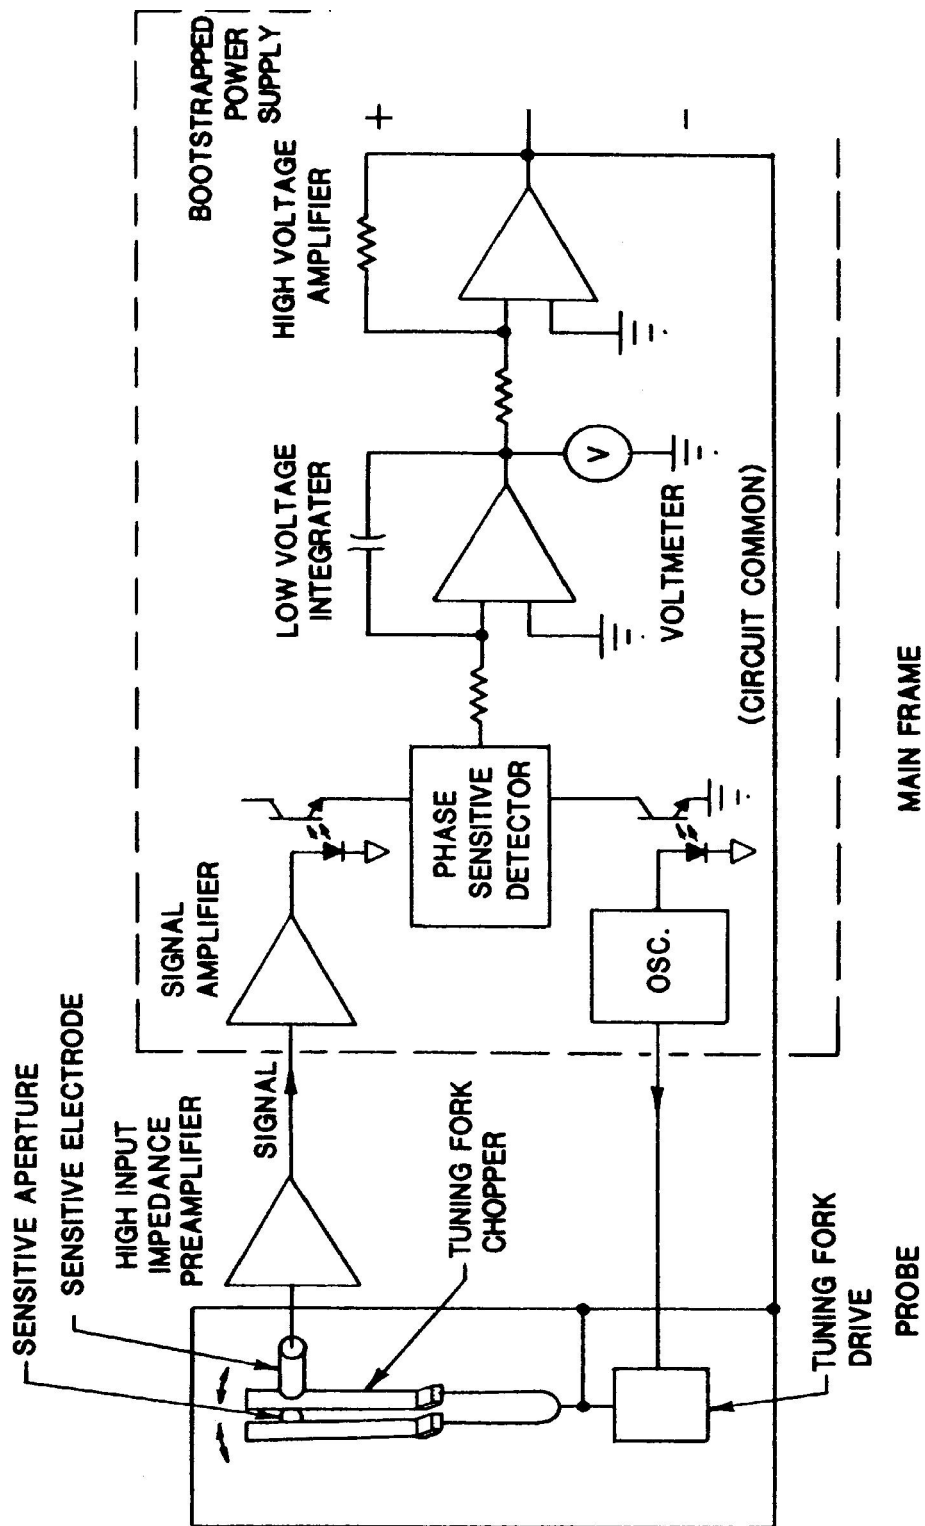

FIGURE 5-1
A. GENERAL: Principle of Operation (See Figure 5-1)